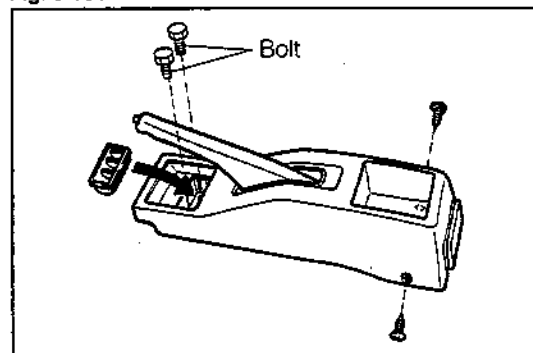

Fig. 8-182
7. Install the console box. (See Fig. 8-182.)